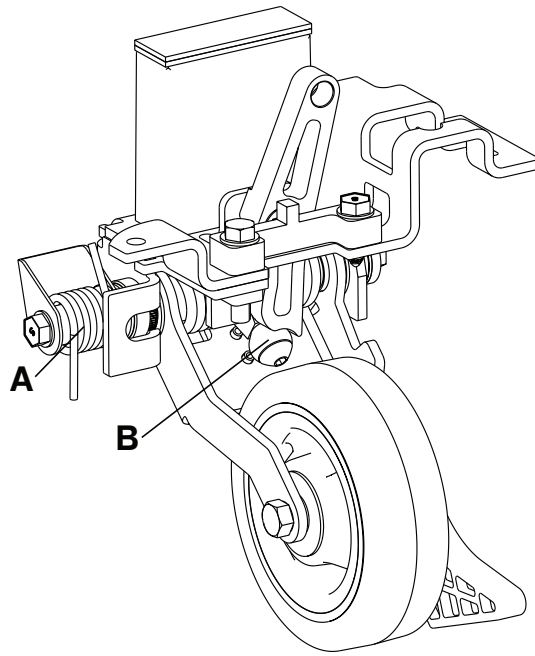

Figure 36 – Retractable fifth wheel lubrication
3. Apply MPG-3 grease to the spring (A) and roller (B) (Figure 36).